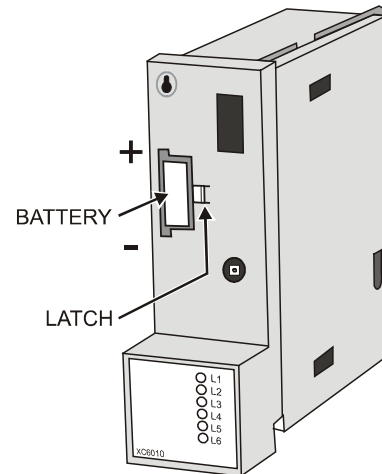

Fig. 39. Battery compartment
2. Release the latch holding the battery in its compartment (See Fig. 39).